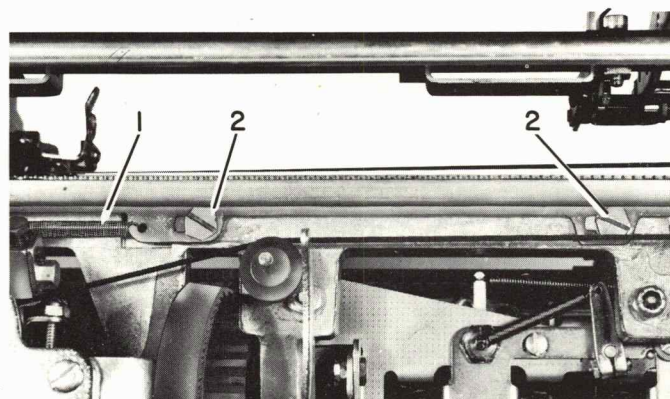

FIGURE 38. Backspace Rack Removal
2. Remove the backspace-rack spring (#1, Figure 38).
3. Remove the three backspace-rack mounting studs (#2, Figure 38), one of which is not shown, and remove the rack.